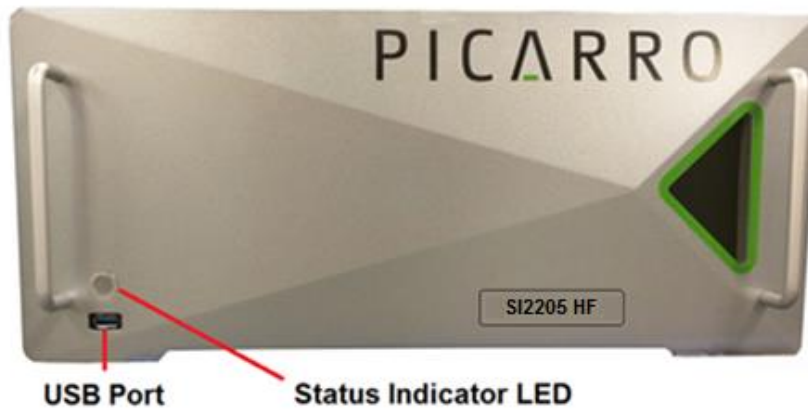
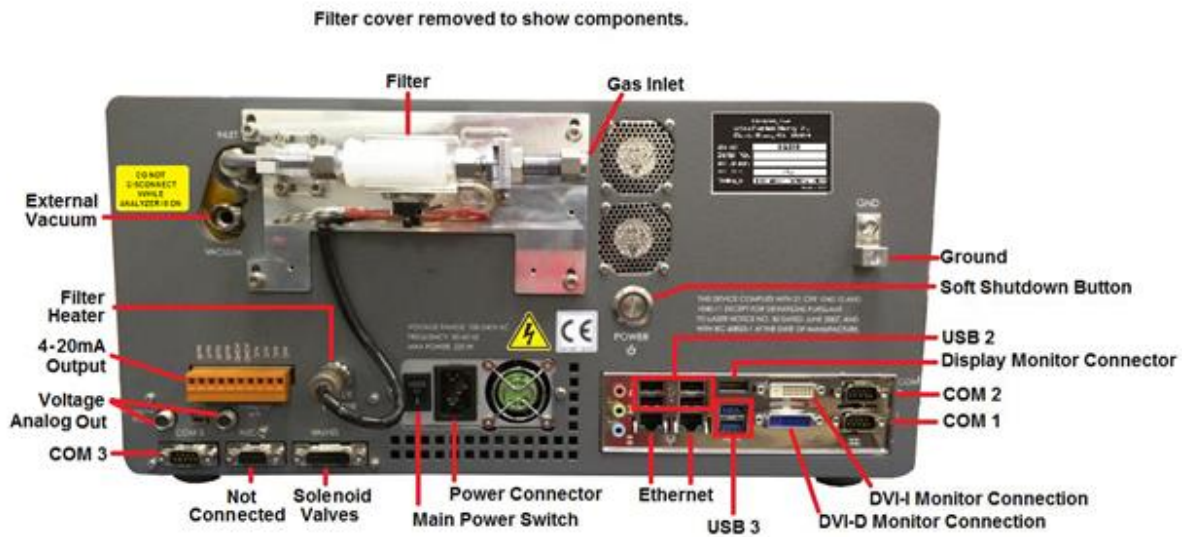
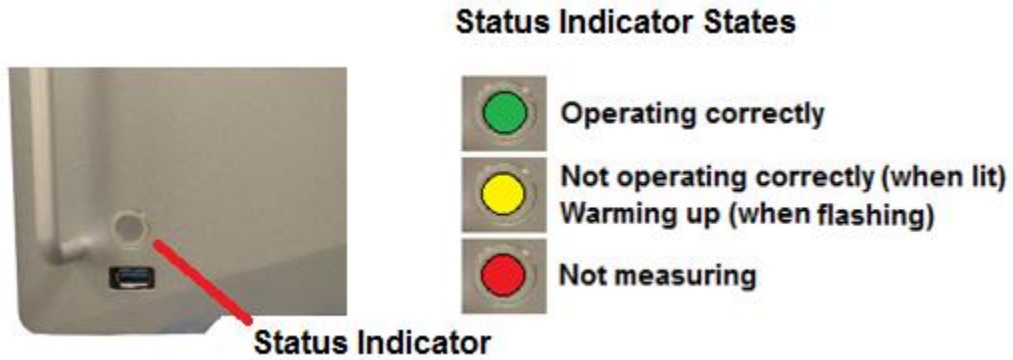
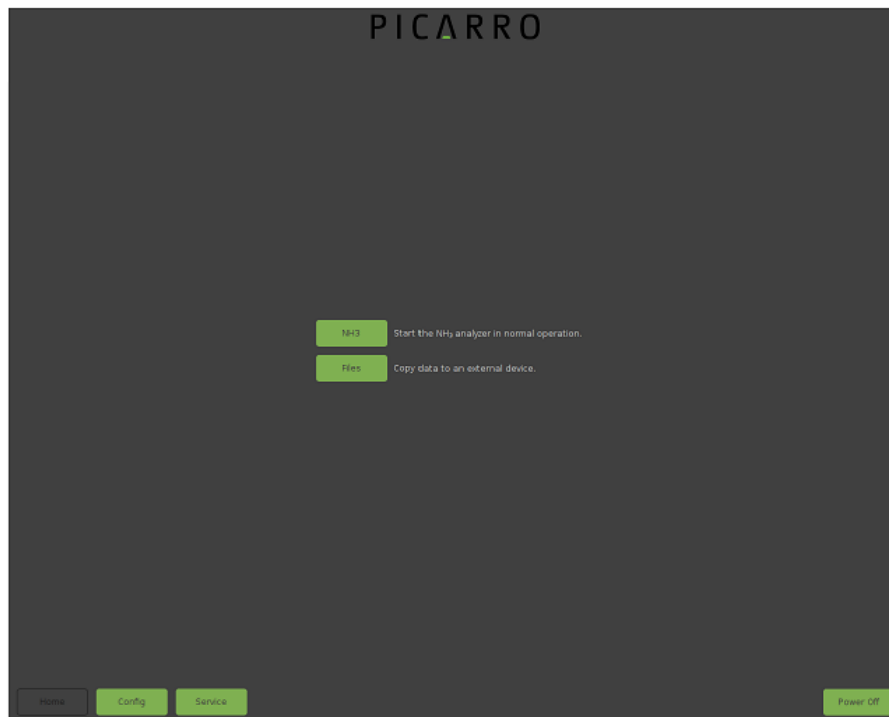

Figure 3: Analyzer Front Panel
Figure 4: Analyzer Back Panel
Figure 5: Status Indicator States
Figure 9: Opening Screen
Figure 3 shows the analyzer front panel and Figure 4 shows the analyzer back panel.
<p>CAUTION</p>	<p>Do not connect USB hubs or unauthorized USB devices (except flash drives, mice and keyboards) to the USB ports (Figures 3 and 4). Unauthorized USB devices may interfere with the analyzers functioning.</p>
The LED indicator on the front panel (Figures 3 and 5) shows the current operating state of the analyzer. Figure 5 shows and describes the status indicator states. The status states and colors are linked to the *System Alarm Panel* on the *CRDS Data Viewer Screen*. See Figure 9.
Caution	<p>Any light emitted from the Status Indicator, regardless of color or state, shown in Figure 5 indicates one or more lasers are on</p>
2. Switch on the main power to the analyzer (Figure 4).
The software starts automatically and the analyzer displays the opening screen. Figure 9.